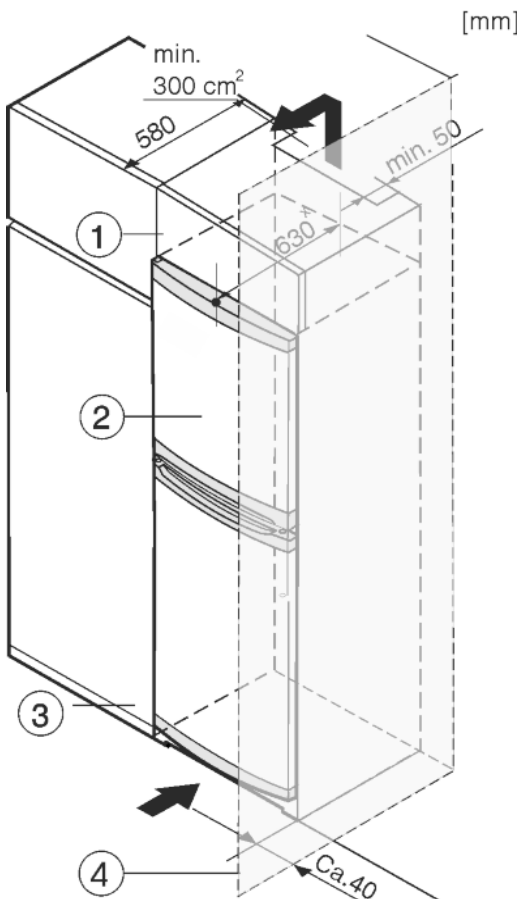

Fig. 8
The appliance can be built into kitchen units. A top cupboard Fig. 8 (2) can be added above the appliance in order to bring the appliance Fig. 8 (1) up to the height of the fitted kitchen units.
When installing with kitchen units (max. depth 580 mm), the appliance can be positioned directly next to the kitchen cabinet Fig. 8 (3). The appliance will project by 34 mm \* at the sides and 50 mm \* in the centre of the appliance in relation to the kitchen cabinet front.
If the appliance is installed with the hinges next to a wall Fig. 8 (4), the distance between appliance and wall has to be at least 40 mm. This corresponds to the projection of the handle when the door is open.